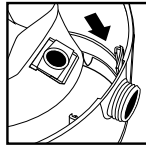

FIGURE 22
32. Slide the inlet deflector with the filter bag attached into the deflector guide. **FIGURE 22**